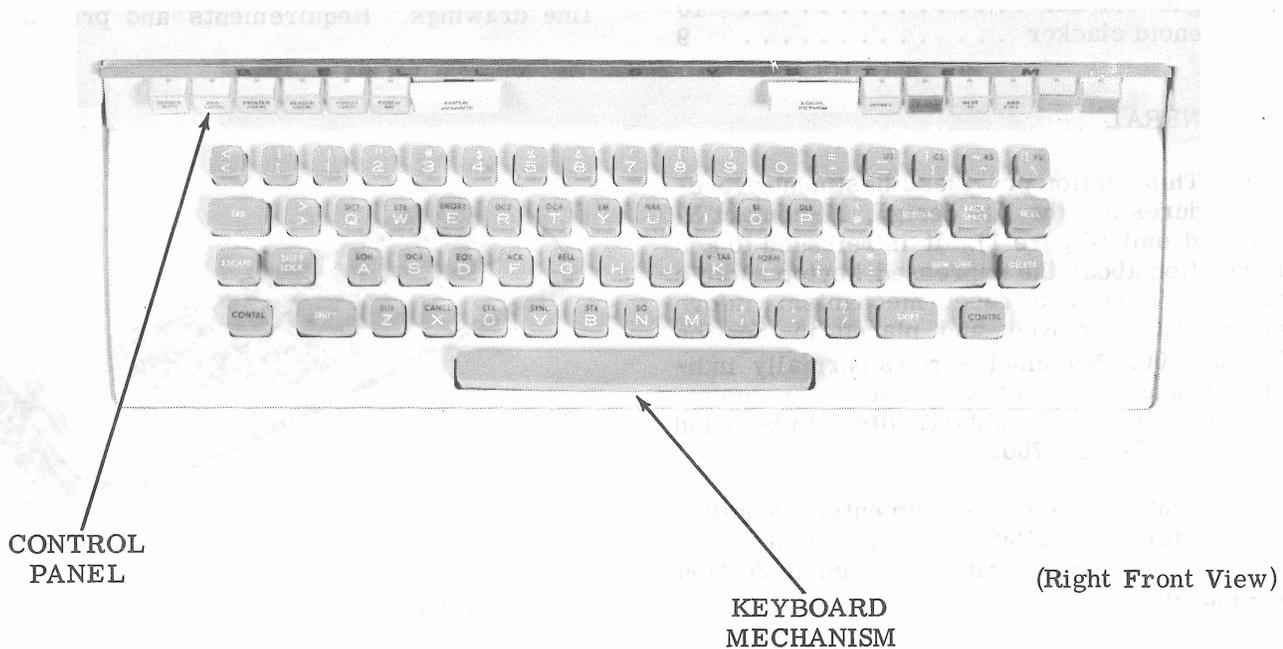

Figure 2 - Keyboard Unit
1.03 Each adjustment or mechanical requirement is associated with a basic mechanism of the keyboard unit. The basic mechanism is identified in Figure 2.